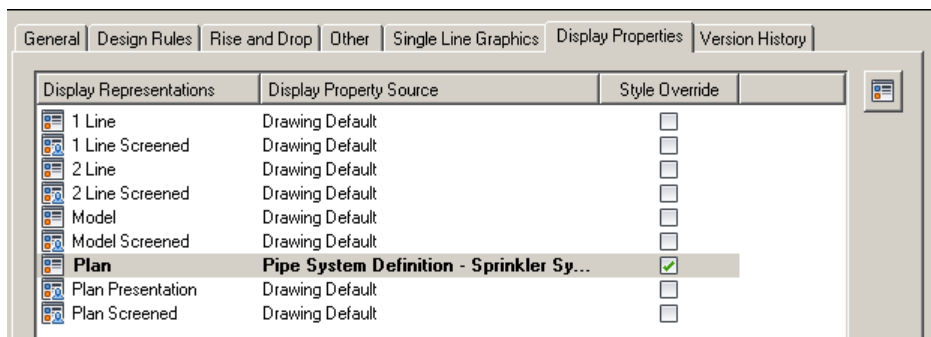

Figure 6.28
2. Next to plan, in the Style Override column, check the box to add the override (see Figure 6.28).